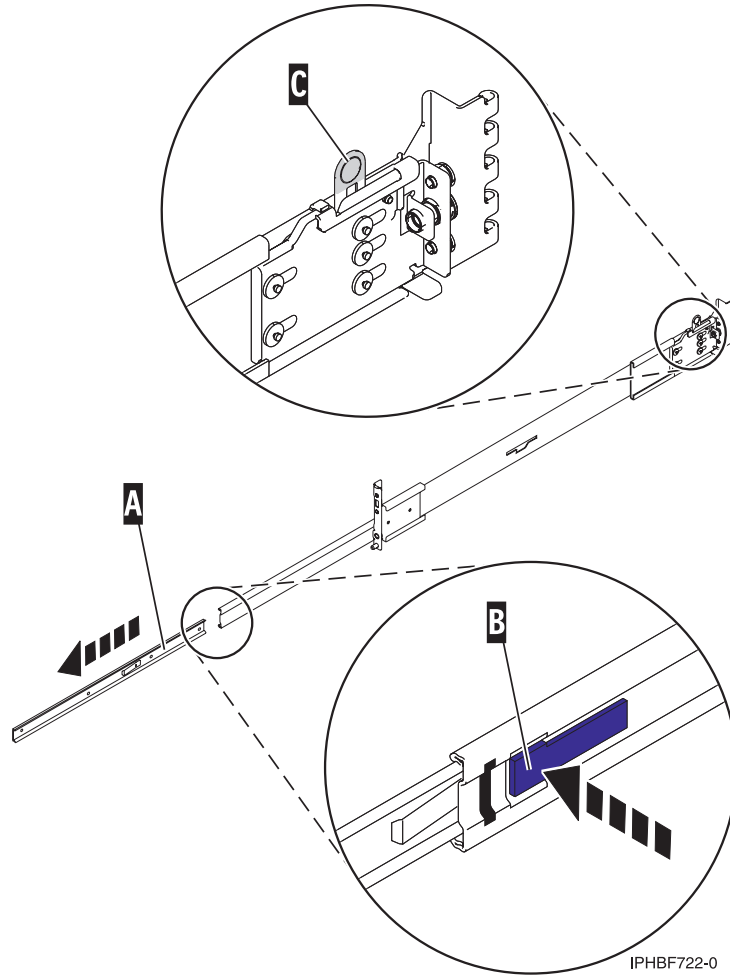

Figure 127. Removing the inner rail from the rail assembly.
1. Beginning with the right slide rail, remove the right inner rail, **A** in Figure 127 on page 126. To do this, complete the following substeps:
- b. Press the blue release button, **B** in Figure 127 on page 126, to release the inner rail.
2. Pull the back latch assembly release tab, **C** in Figure 127, to the retracted position and lock the latch assembly. The back-alignment pins should be fully retracted.
5. Press the release tab, C in Figure 127 on page 126, outward to extend the two back-alignment pins into the back of the rack. Ensure that the pins have passed through the correct holes in the rack frame.